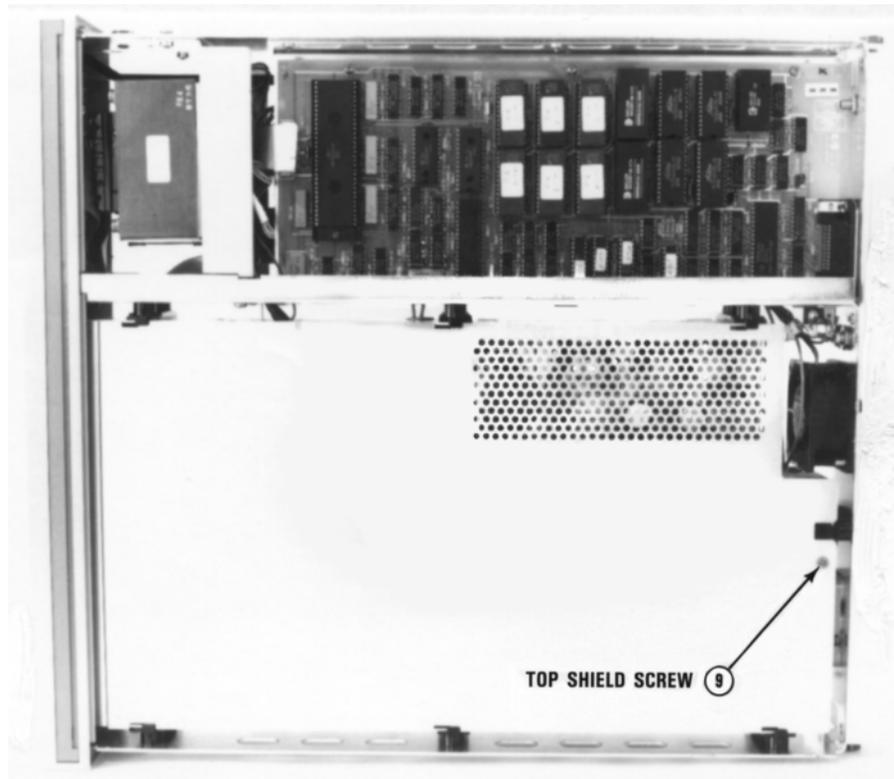

Figure C-7 3458A inside top view
- 1** Refer to Figure C-7. Turn the instrument over so its bottom sits on your work bench.
- 4** Refer to Figure C-7. Replace the top shield. Line up the slots on the shield with the shield retainers. Then push the shield toward the front of the instrument until the shield screw hole lines up with the hole in the chassis. Use the #TX 10 Torx driver to reinstall the shield screw.